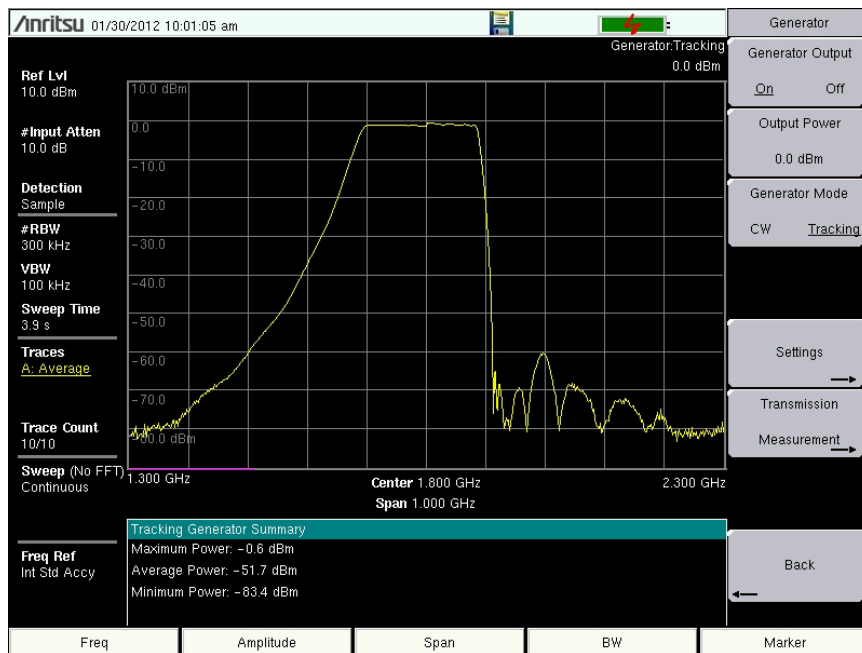

Figure 3-2. Increasing Measurement Dynamic Range, Trace Averaging On, Displaying Power Statistics
6. If the spectrum analyzer noise floor is too high for the necessary measurements, then reduce the input attenuation and RBW to maximize the dynamic range. Figure 3-2 on page 3-3 shows the sample setup with the input attenuation lowered from 30 dB to 15 dB and with the RBW reduced from 3 MHz to 300 kHz.
7. When measuring a filter with a very high insertion loss in the stop band, press the **Shift** key, then the **Trace (5)** key. Press the Trace A Operations submenu key, then the **Average** → **A** submenu key to turn on averaging and clean up the stop band area. An averaging value of 10 will probably be adequate for most filters.
8. Under the **Setting** submenu turn **Power Statistics On** (Figure 3-2) to display the spectrum analyzer received Maximum, Average, and Minimum power of each frequency range sweep.